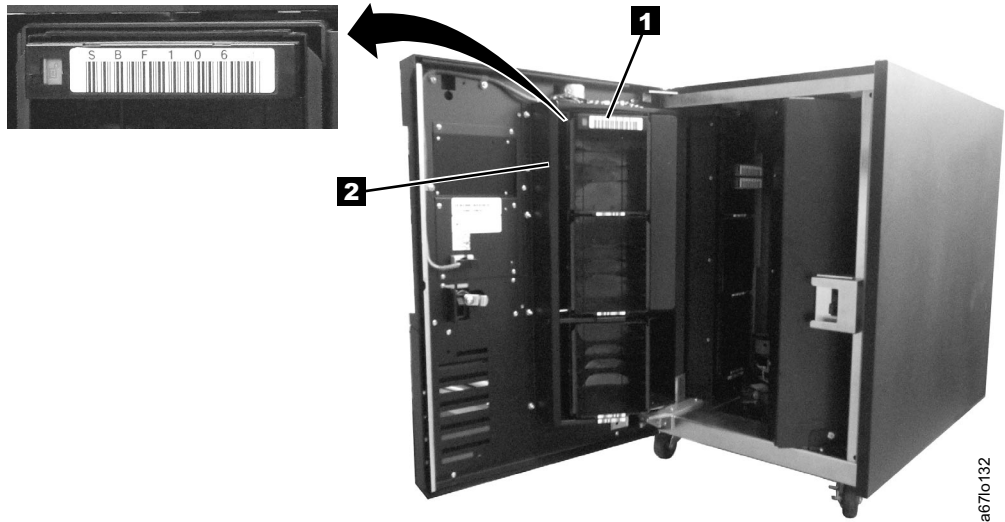

Figure 43. Inserting a data cartridge
3. Check the write-protect switch on the data cartridge (scratch cartridge) that was shipped with the library (see **1** in Figure 43 on page 66). Ensure that it is set so that data can be written to the tape (see “Setting the Write-Protect Switch” on page 250).